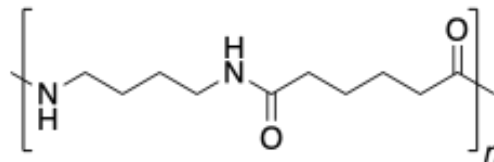

Figure 2: Polymer Y
- (2). Figure 2 illustrates the chemical structure of Polymer Y through a condensation polymerization reaction.